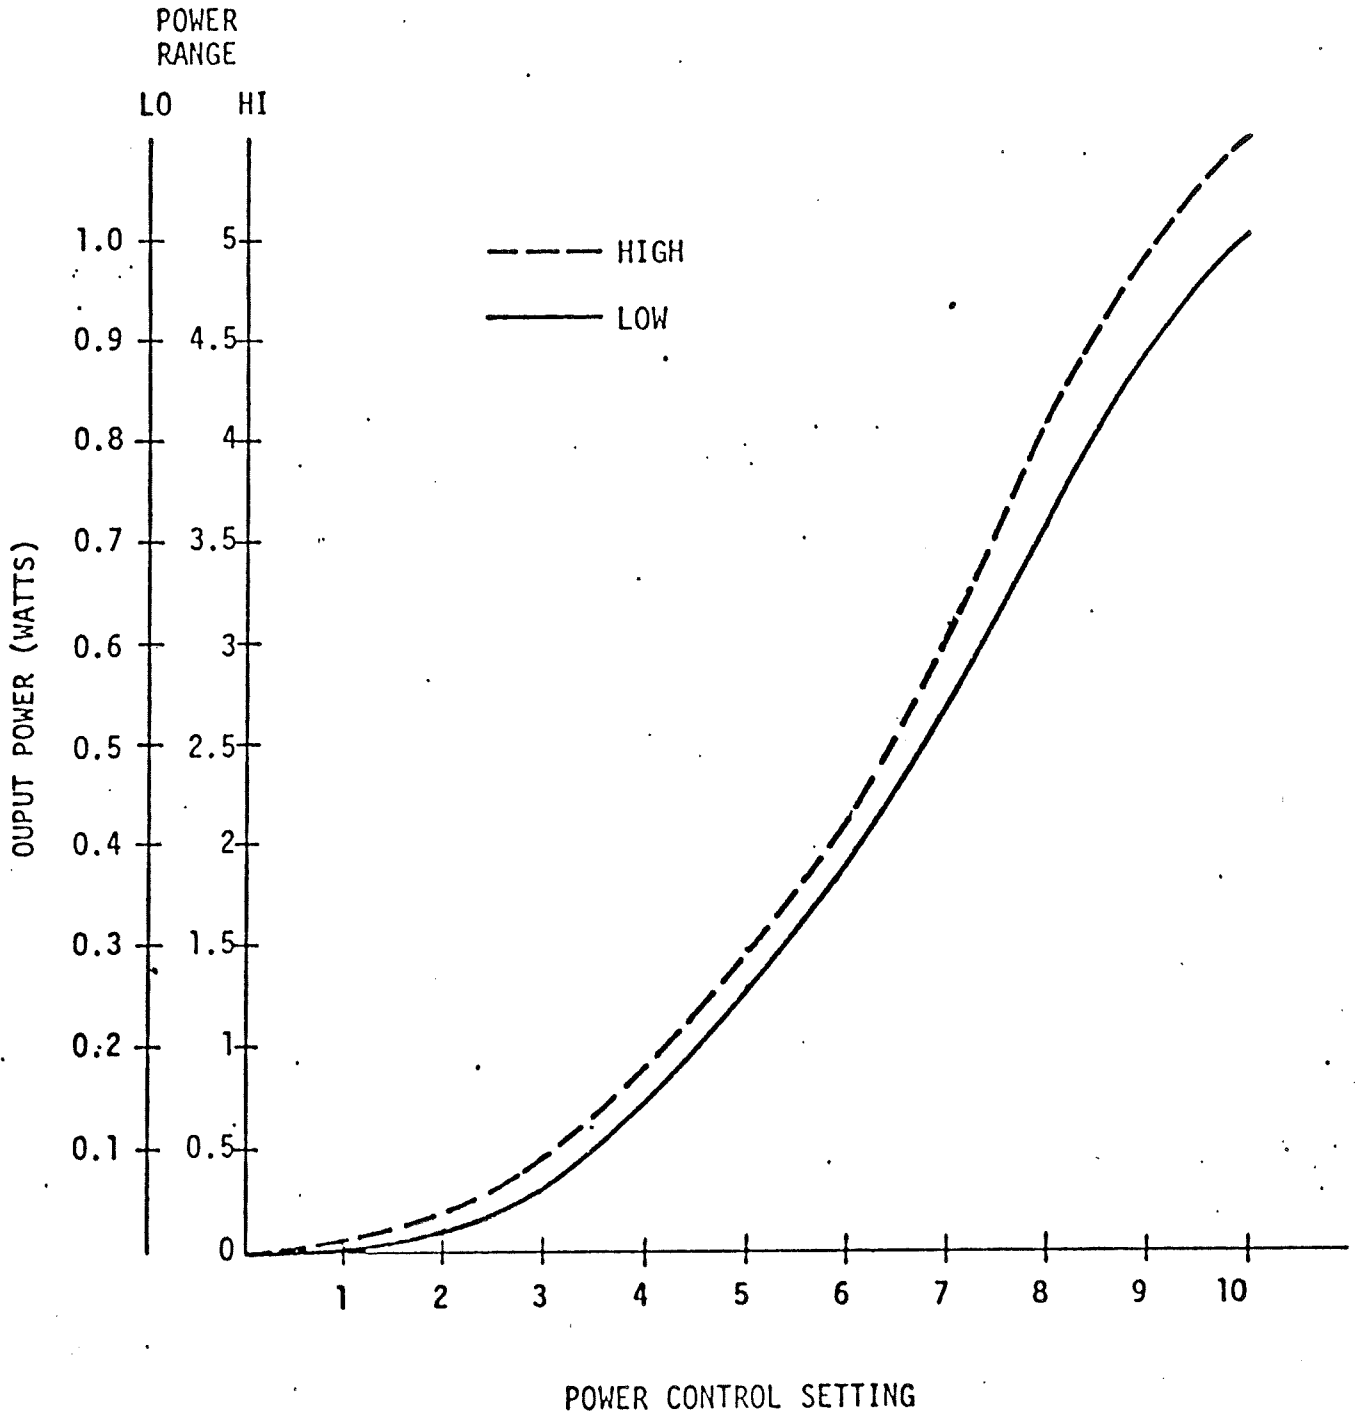

FIGURE 2
The front panel controls of the Power Logicon are shown in Fig. (1). Figures 2 and 3 give representative time and power values as a function of control knob settings.